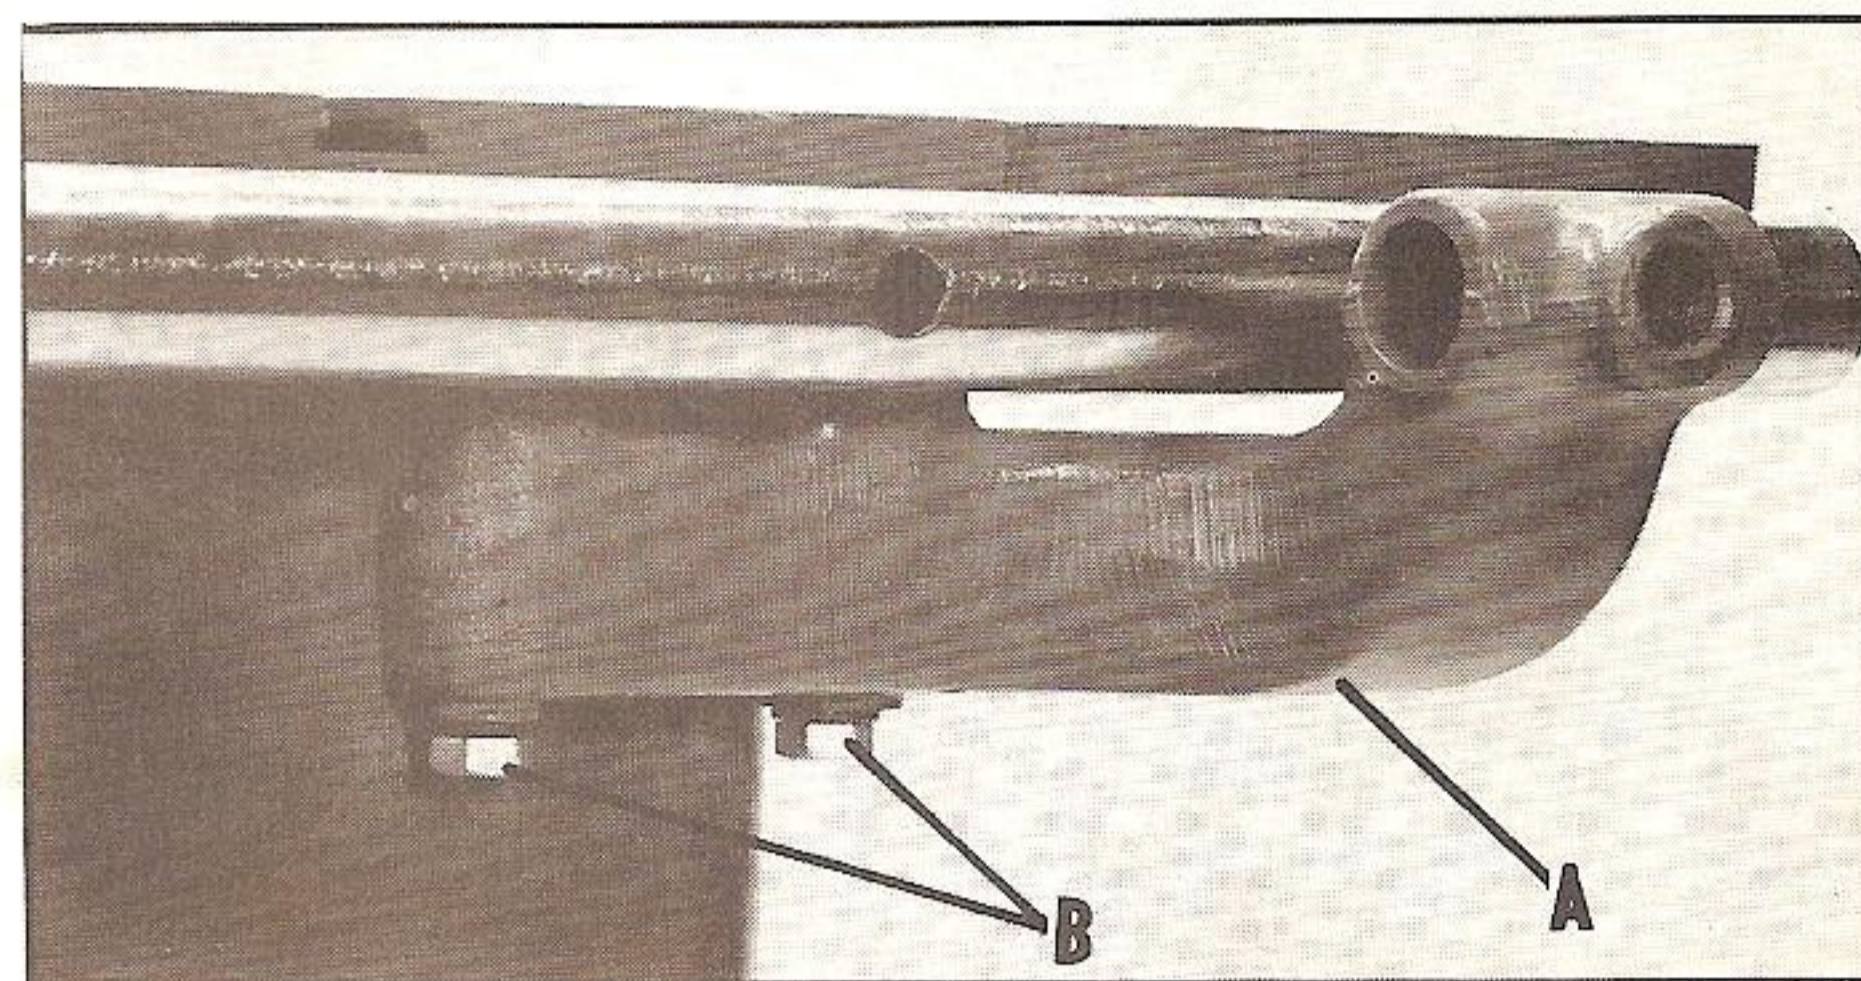

Fig. 13
2. Assemble the bracket (A) Fig. 13, to the table (using the two holes mentioned in STEP 1) with the two screws and washers (B).